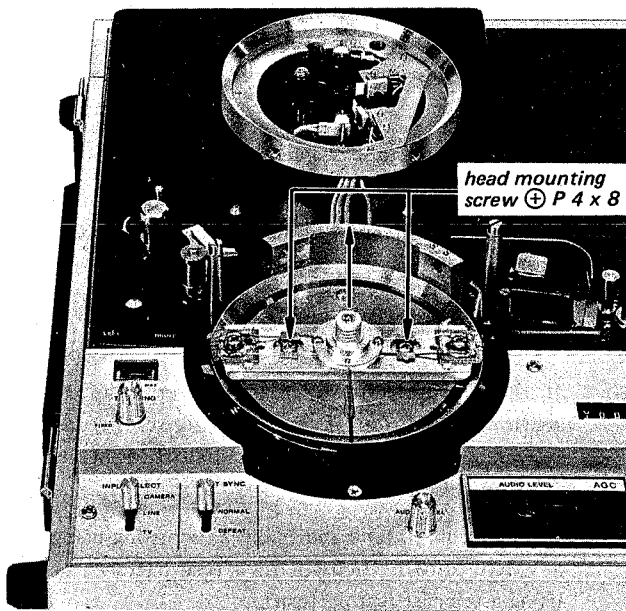

Fig. 4-3. Removal of video head assembly
6. Hold the Video Head Assembly to keep the platform from rotating and loosen the two + P 4 x 8 screws that hold the head assembly to the platform. See Fig. 4-3. Do not put too much downward pressure on these screws; loosen the locking compound with Methyl Ethyl Ketone. Remove the screws and the washers.